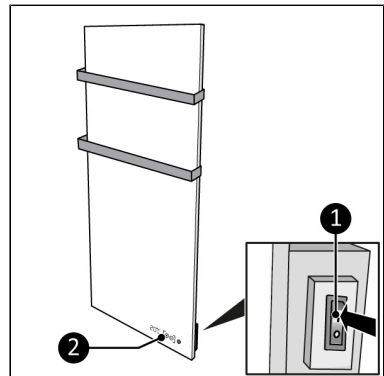

Figure 12.
1. Set the ON/OFF switch to the ON position (Figure 12, pos. 1).
2. The control panel and display (Figure 12, pos. 2) will light up.